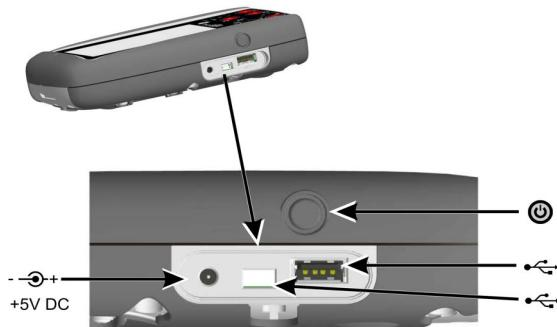

Figure 2: Side View
1. Connect the DC power supply/battery charger unit in to the $+5V_{DC}$ connection on the side of the unit (Ref: Fig 2 Side View).
2. The battery can also be charged using the USB connections (Ref: Fig 2 Side View).
From OFF – press the power button (Ref: Fig 2, Side View) until the dashboard is displayed.